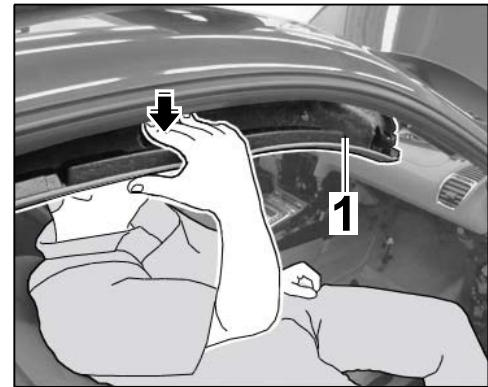

Figure 4
2.1.6 Carefully pull the headliner  $\Rightarrow$  Figure 4-1- down  $\Rightarrow$  Figure 4 -arrow-.